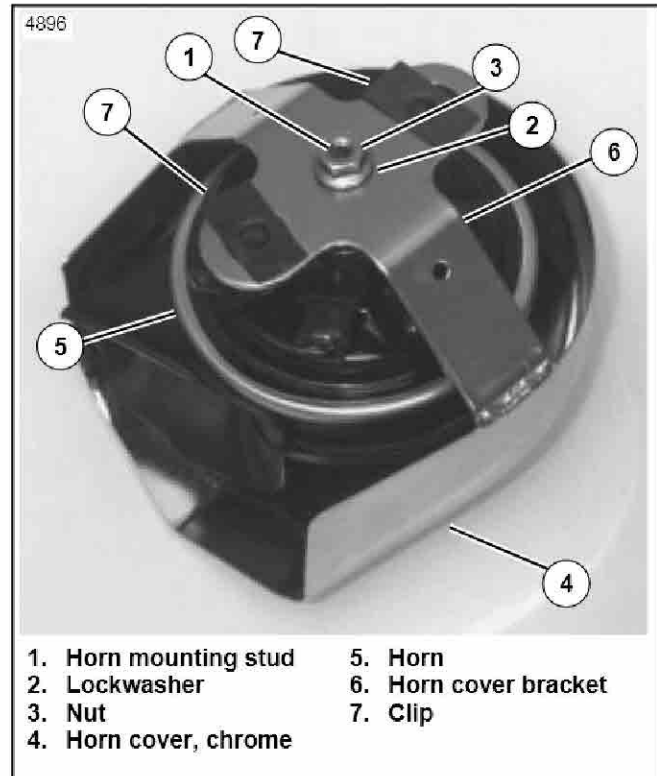
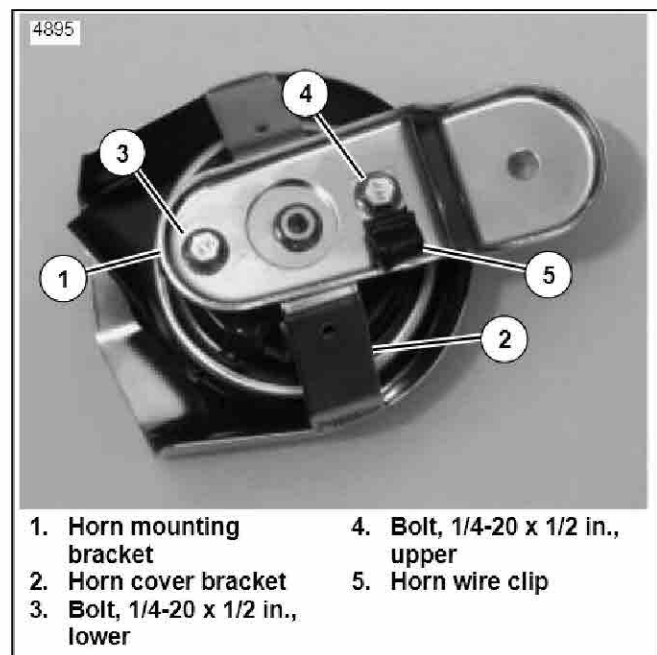

Figure 1. Horn Cover and Hardware - All Models
Figure 2. Horn Mounting Bracket Installation
- See Figure 1. Remove nut from horn mounting stud (1). Assemble chrome horn cover (4) onto horn (5) using the *middle* hole in the horn cover bracket (6), as shown. Install lockwasher (2) supplied in kit onto the horn mounting stud (1). Apply 1-2 drops of Loctite 242 (blue) to the threads of the mounting nut (3). Tighten nut to 110 in-lbs.
- Push clip nuts (7) into bracket holes on top and bottom of horn cover bracket (6).
- See Figure 2. Place horn mounting bracket (1) over top and bottom holes in horn cover bracket (2). Install 1/4-20 x 1/2 in. bolt (3) from kit through lower hole in bracket. Insert remaining 1/4-20 x 1/2 in. bolt (4) through hole in horn wire clip (5) and secure bolt (4) to top hole in horn mounting bracket (1). Tighten bolts (3 and 4) to 5-8 in-lbs.